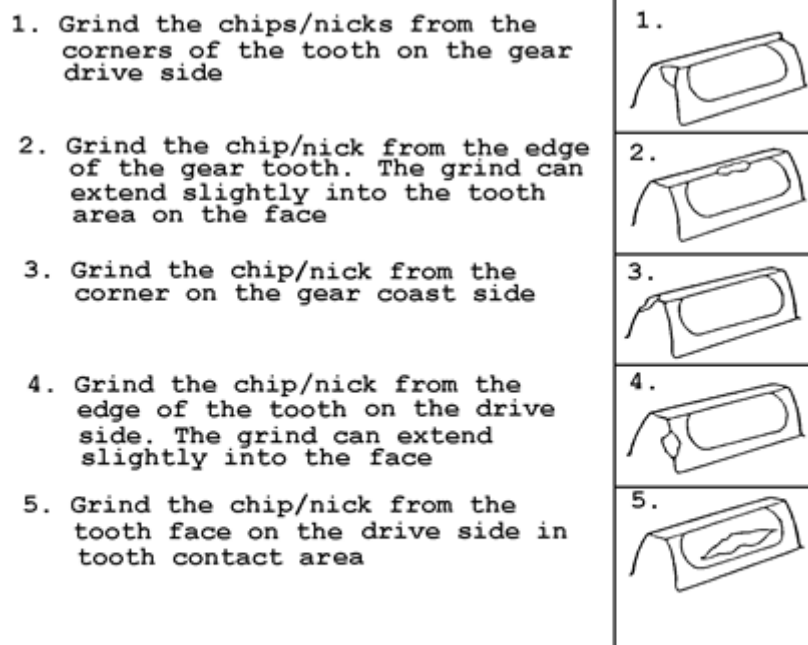

FIG. 19
- Remove chips/nicks as described in Fig. 19, if necessary.